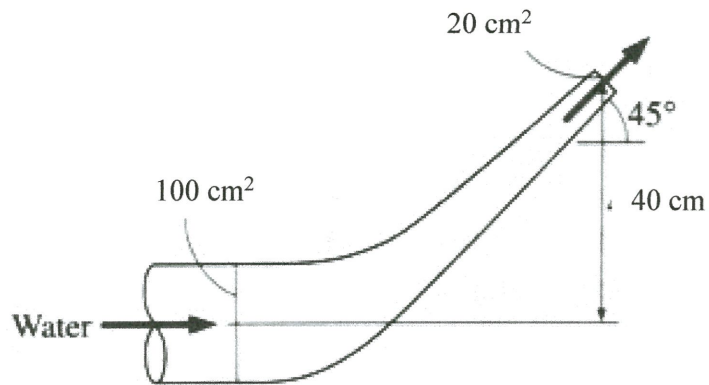

FIGURE Q2 (c)
- Q2.** (a) Explain the **THREE (3)** major assumptions used in the derivation of the Bernoulli Equation. (6 marks)
- (b) A piezometer and Pitot tube are tapped into a 5 cm diameter horizontal water pipe, and the height of the water columns are measured to be 25 cm in the piezometer and 40 cm in the Pitot tube (both measured from the top surface of the pipe) as shown in **Figure Q2(b)**. Determine the velocity at the center of the pipe. (7 marks)